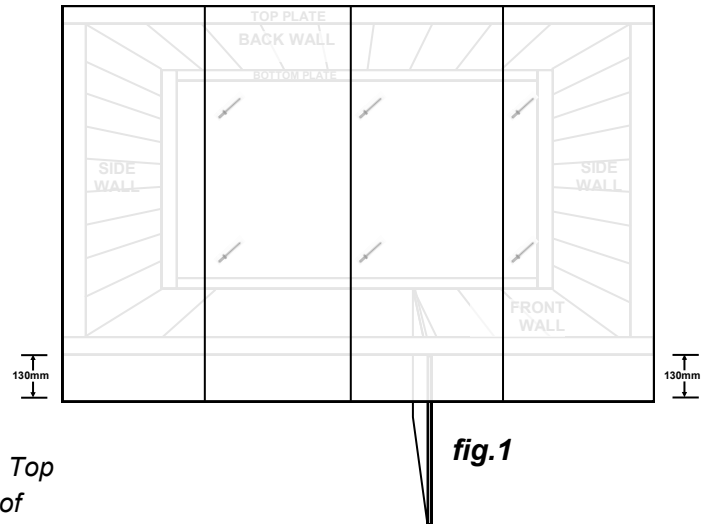

fig.1
- Position the Roof Sheets with front overhang of 130mm at each end (**fig. 1**).